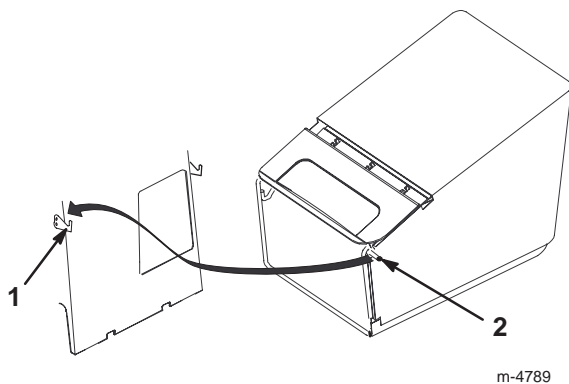

Figure 17
5. Hang the grass bag frame pins onto the hooks as shown in Figure 17.
4. Lift the grass bag frame pins off the hooks and out of the opening as shown in Figure 17.